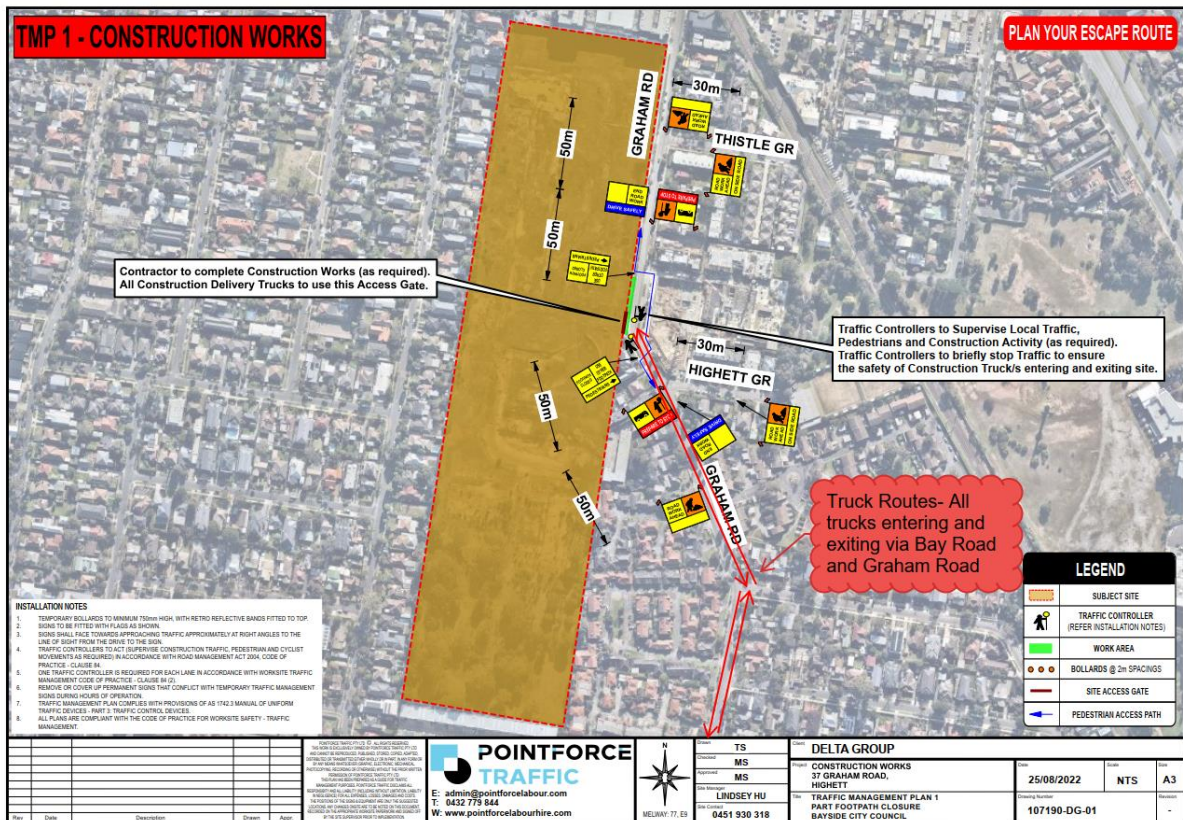

Figure 4 Traffic Management Plan_ Highett
- Delta Group will engage an approved Traffic Management Firm (Such as Point Force Traffic/MC Traffic) as a third party traffic engineer to complete an assessment and construct a traffic management plan for this job. Please see below figure 4 for the traffic management plan.